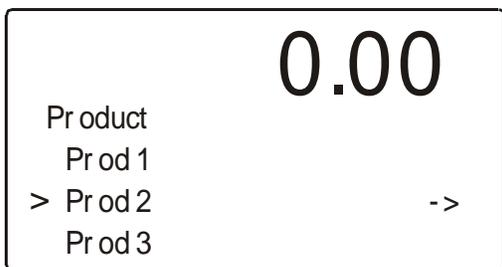

FIG. 3-10 PROCESS SETUP MENU/SETTING PROD 2 PARAMETERS
- Step 9. Press the “-” button until the cursor is in front of “Prod2” (See Fig.3-10)